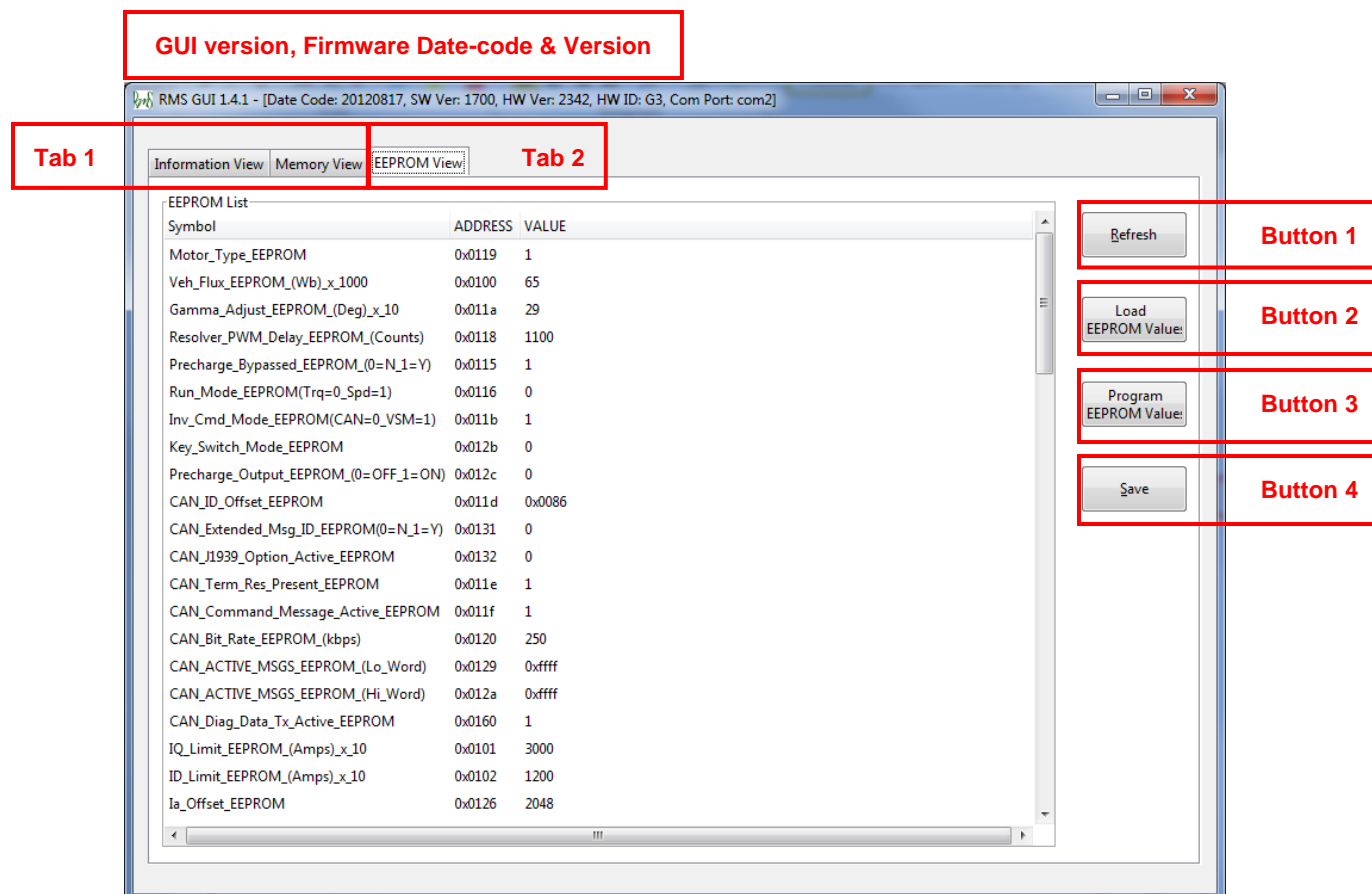

Figure 5.2
- (b) Click on the EEPROM View tab (labeled 'Tab 2' in figure 5.2). This will display all EEPROM parameters that can be programmed by the user.
- (d) When all values are changed, click on the Program EEPROM button (labeled 'Button 3' in figure 5.2).
EEPROM values can be saved by using the Save button (labeled 'Button 4' in figure 5.2). You will be prompted for a filename to save the data to. After selecting the file you will be prompted to press "OK" to start the download.
You can also load a predefined set of values by using the Load EEPROM Values button (labeled 'Button 2' in figure 5.2).